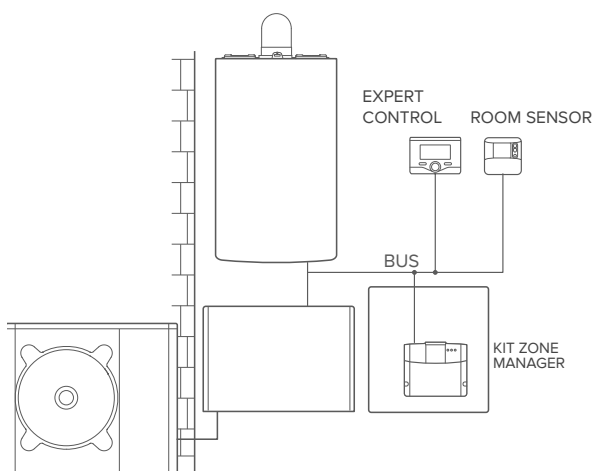

fig.9
Activation of RD and RC in a hybrid system with up to 2 hydraulic zones controlled by BUS devices (Fig. 9)
3. Attach the cover, pushing gently (Figure 9).